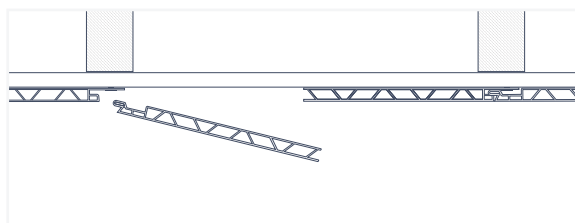

Fig. 40
3. The side of the panel with the tongue should easily slide out of the adjacent panel (Fig. 40).